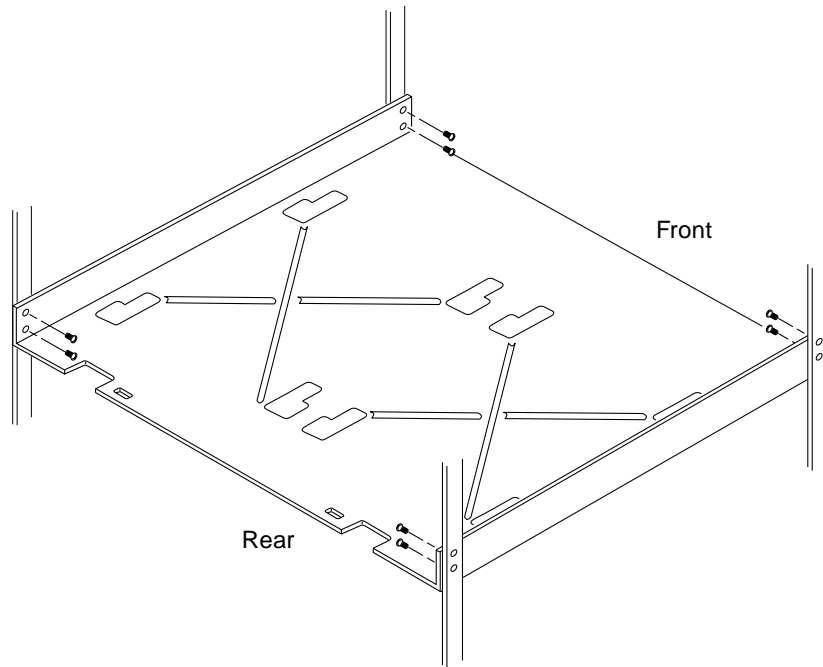

FIGURE 2-1 Installing the Tray in the Cabinet
2. Install the tray in the cabinet (FIGURE 2-1).